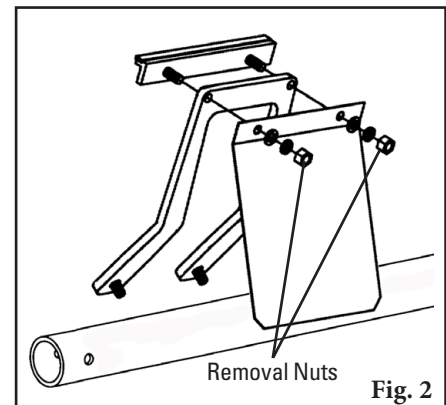

Fig. 2
2. **Remove the worn tips.** Remove the nuts on each tip and remove the tips from the cushion (Fig. 2). Clean all fugitive material from the pole. **NOTE:** If tips are hard to remove use a screwdriver or hammer to loosen it and then remove.